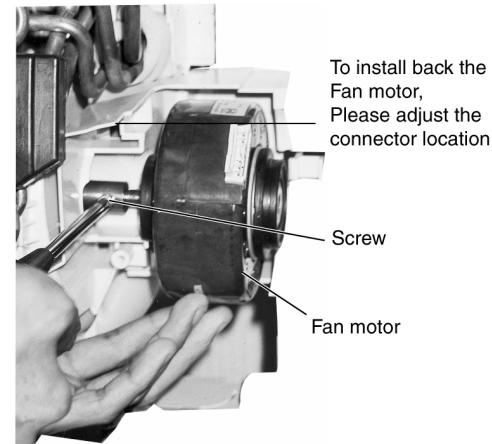

Fig. 5
– Finally remove the fan motor by removing the screw. (Fig. 5)
– REMINDER - To reinstall the fan motor, adjust the connector of the fan motor as Fig. 5.